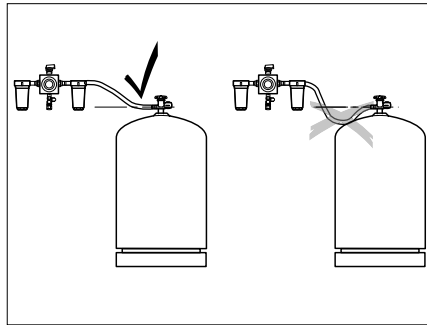

Fig. 245 Routing of the high-pressure hoses
- ▷ When routing the high-pressure hoses ensure that the hoses rise continuously (Fig. 245).